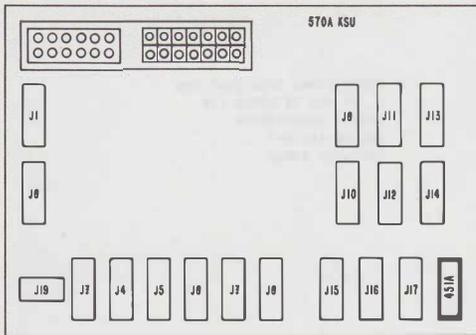

Fig. 37—Location of 451A KTU for Music-On-Hold
- (a) 451A or B KTU in J18. See Fig. 37 for KTU location.